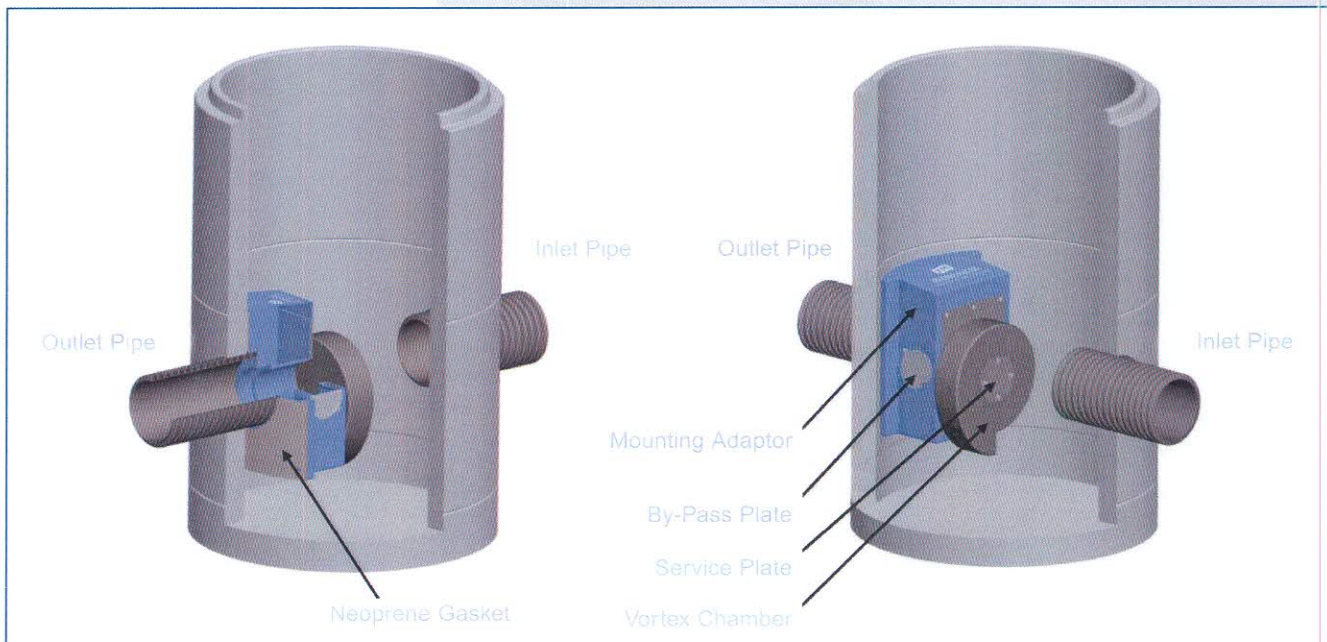

Fig. 5 (Ø1200mm Manhole Installation)
Hydro-Valve vortex flow control devices have patented features such as the unique mounting adaptor which allows the easy installation of the Hydro-Valve onto the curved surface of a 1200mm manhole or the flat surface of a rectangular manhole. This unique mounting adaptor has an integrated bypass facility operated by a wire rope from the top of the manhole in the unusual event of a blockage. Another maintenance feature is a removable service plate on the back of the vortex chamber. (see figure 5.)
- To suit a Ø1.2m Manhole (plastic or concrete, see fig. 5)